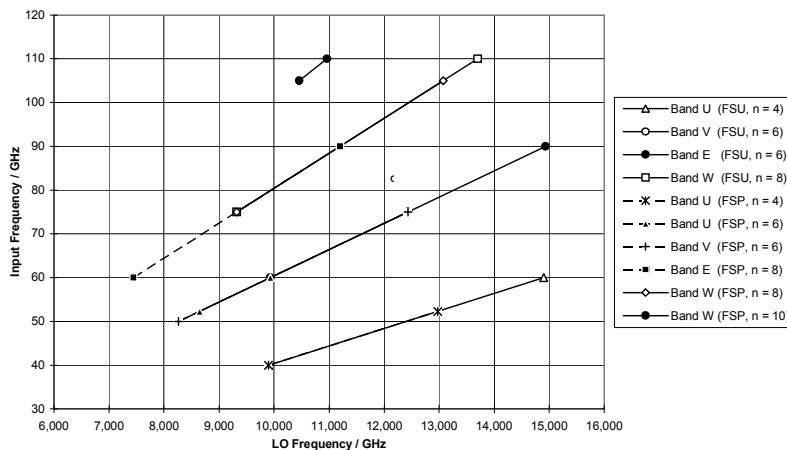

Fig. 2 Dependence of LO frequency on the frequency of the input signal to be converted
Nonlinearities produce harmonics of the LO signal which are used to convert the input signal to a lower intermediate frequency (IF). The relationship between LO frequency and input signal frequency is shown as approximation in Fig. 2.